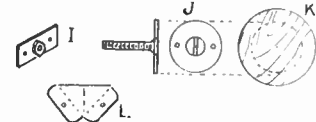

Fig. 4—Parts of the mechanism
You will need a 1 in. brass screw bolt and nut. Solder the nut to a small piece of brass, as at (I) Fig. 4, soldering it accurately over a $\frac{1}{16}$ in. hole drilled through the brass. Drill fixing holes each side, and fix the brass over hole (d). To the screw, solder a disc of metal, about $\frac{3}{8}$ in. diameter as at (J), and drill a pair of small fixing holes also. This is screwed to a $1\frac{1}{2}$ ins. disc of fretwood (K). Screw the whole ensemble in hole (d).